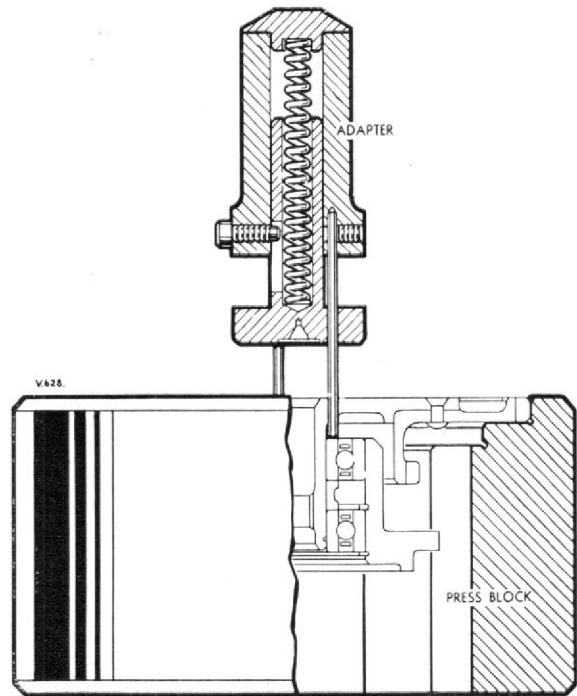

Fig. 16. Press block T.77660 and three-pin adapter T.77661 for pressing off bearings and housing from tachometer gear.
2. Position the assembly, small gear downwards, on press block T.77660 and using three-pin adapter T.77661, press off the housing and the two ball bearings, Fig. 16.